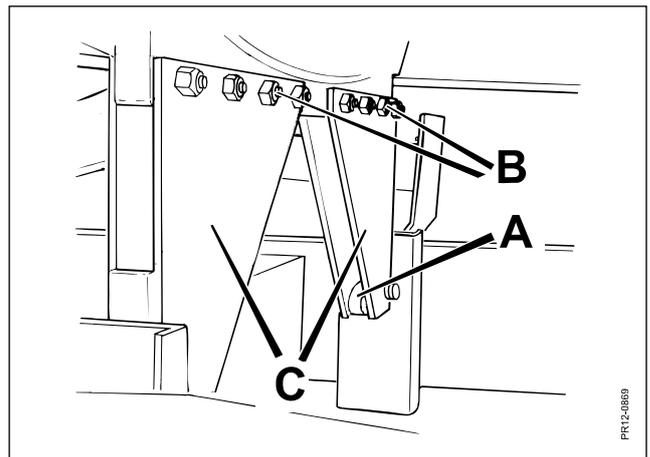

Fig. 9.9
**Fig. 9.9** Support rollers for the tip (A) must ensure that there is no unnecessary play between undercarriage and mixing tank. Play and friction free guidance ensures a stable and good measuring of weight.